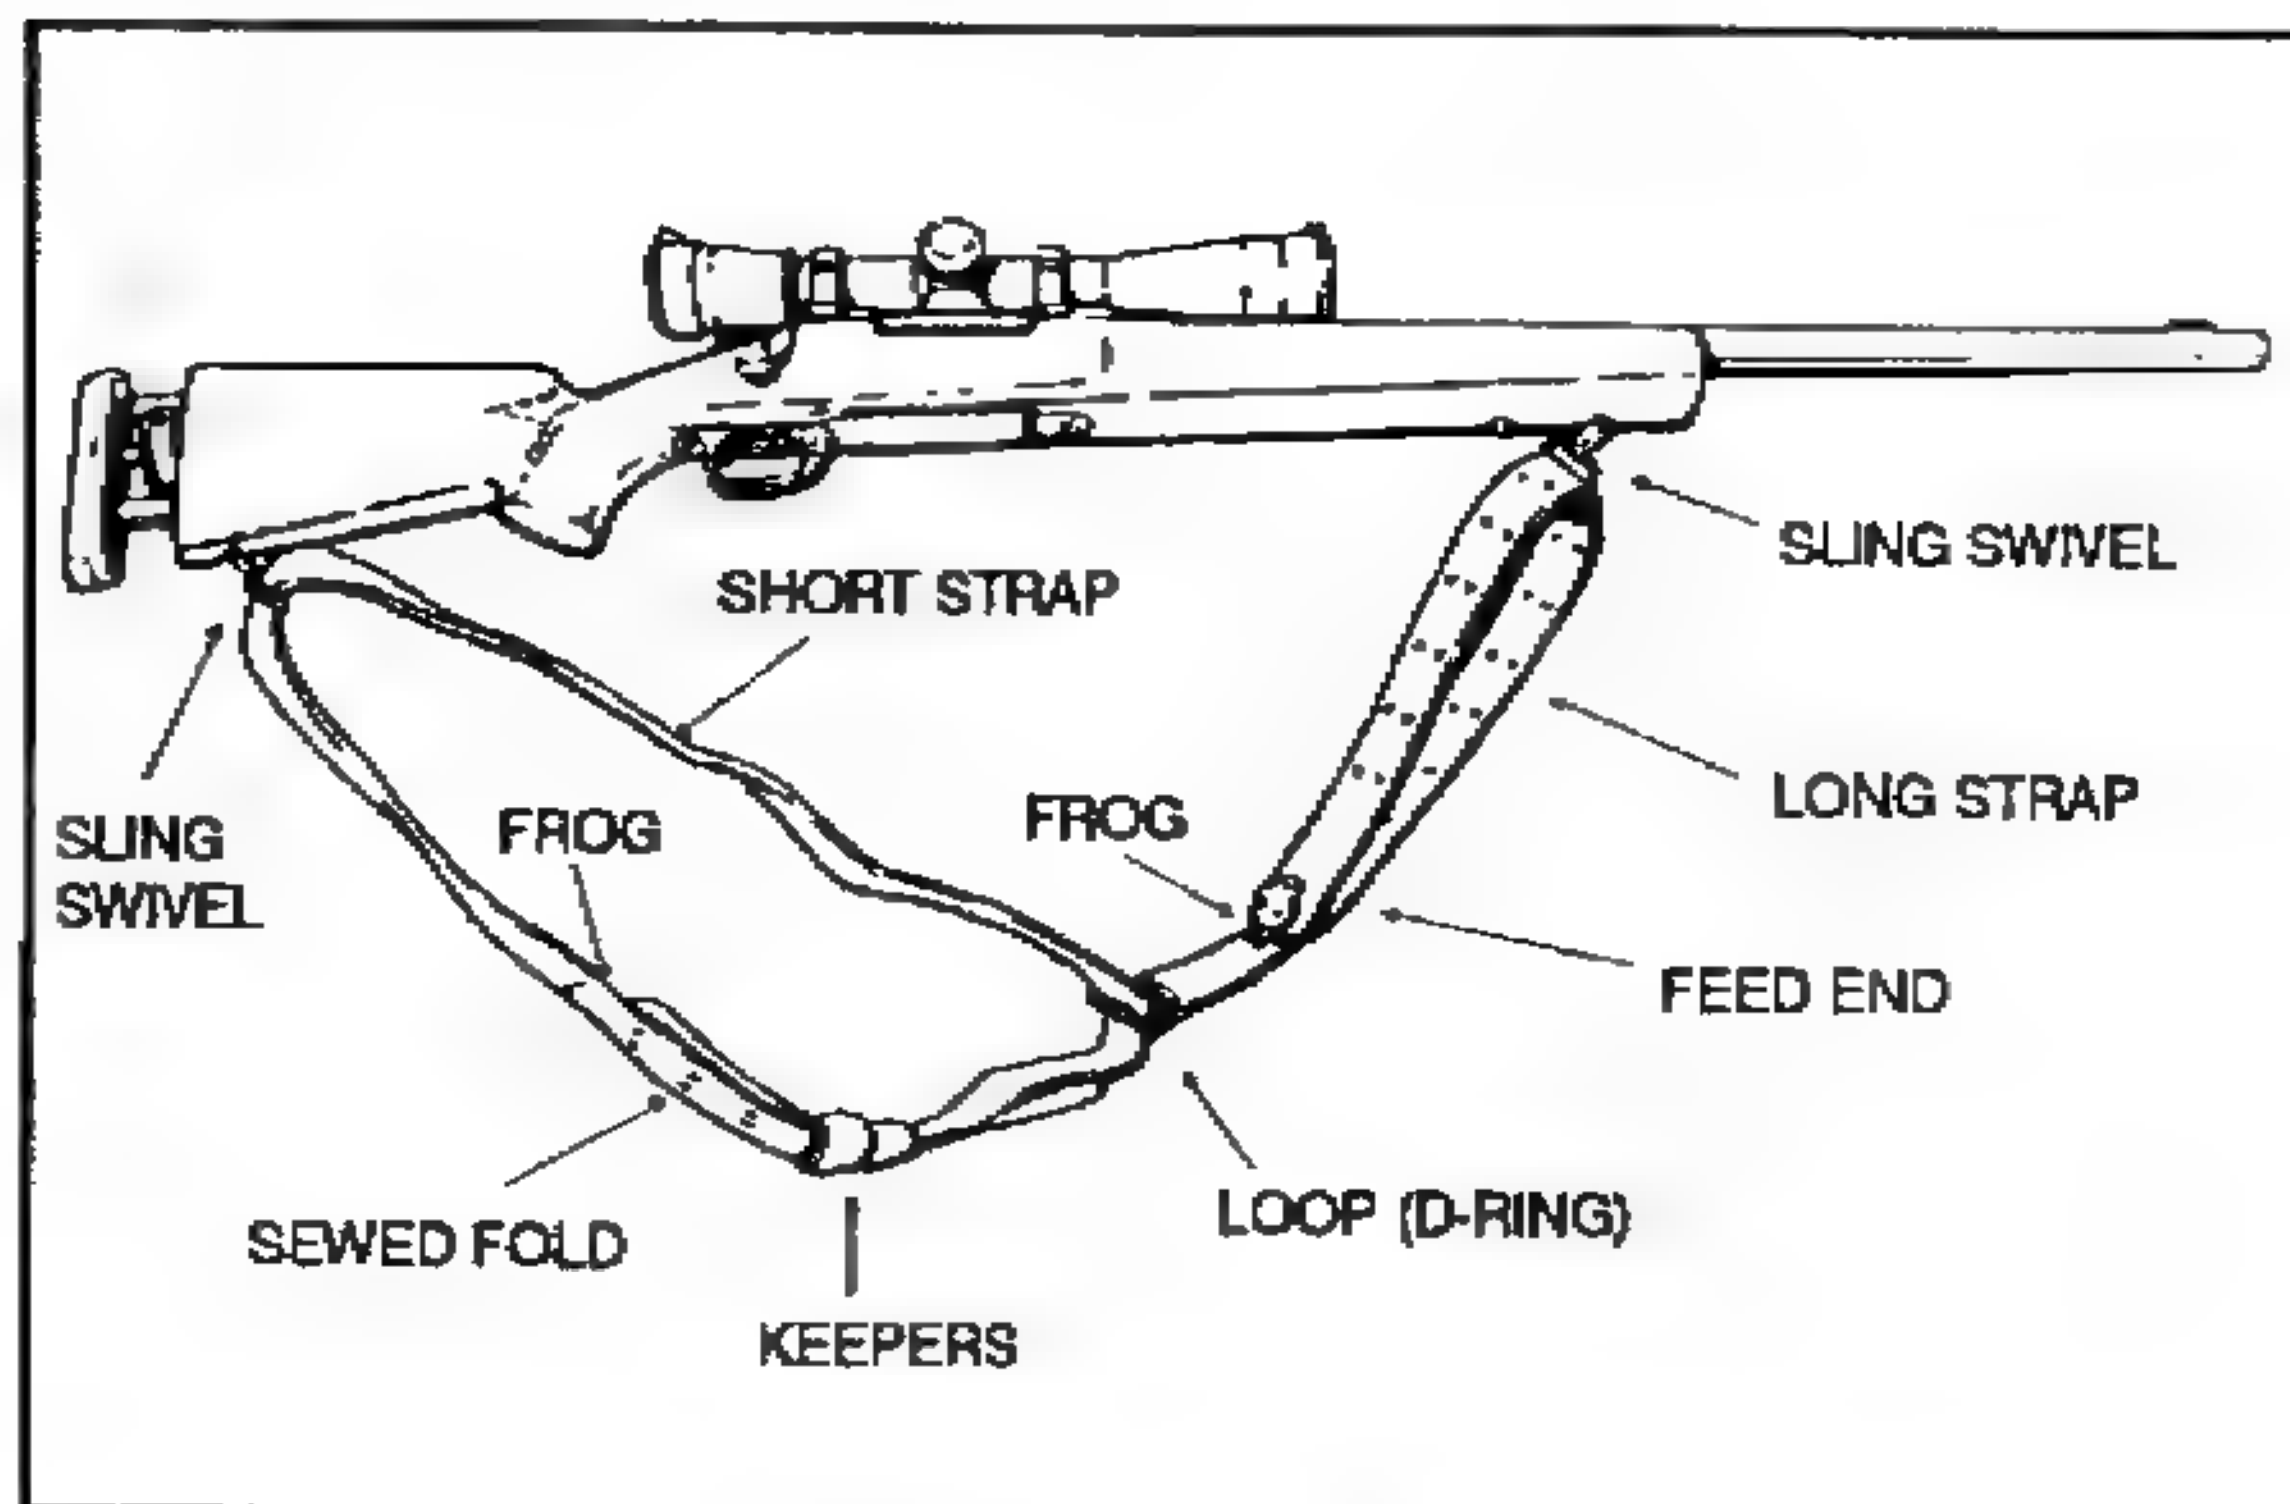

Figure 2-8. Leather Sling.
(1) The sling consists of two different lengths of leather straps joined together by a metal D ring (Figure 2-8). The longer strap is connected to the sling swivel on the rear stud on the forearm of the rifle. The shorter strap is attached to the sling swivel on the buttstock of the rifle. There are two leather loops on the long strap known as keepers. The keepers are used to adjust the tension on the sling. The frogs are hooks that are used to adjust the length of the sling.